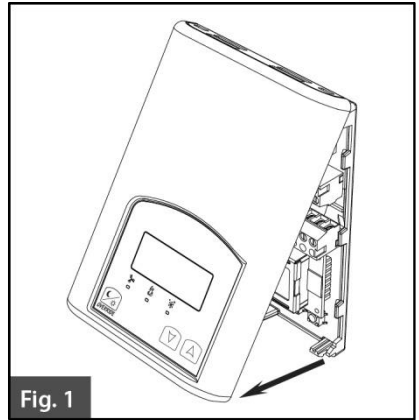

Fig. 1
- Open unit by pulling on bottom side of Room Controller (fig. 1).